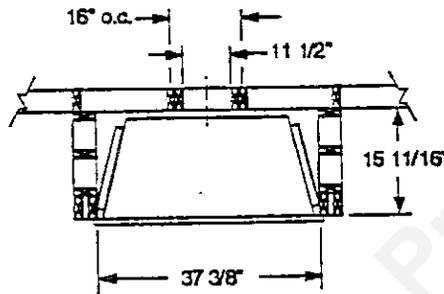

Fig. 3
1. Choose furnace location and frame opening as illustrated below in figure 3, 4a & 4b.